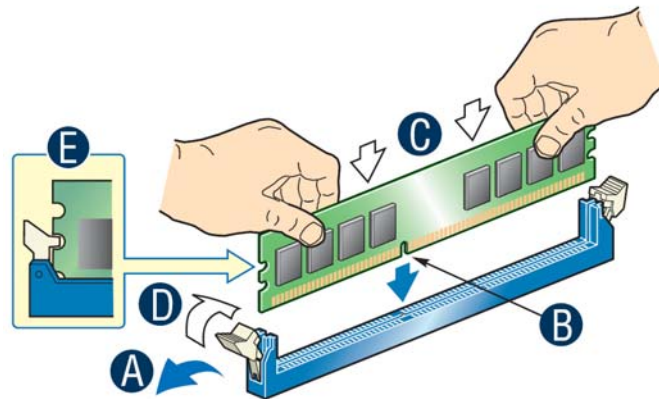

Figure 27 .Installing Memory
5. Make sure the clips at either end of the DIMM socket(s) are pushed outward to the open position (Step “A” in Figure 27).
7. Position the DIMM above the socket. Align the small notch in the bottom edge of the DIMM with the key in the socket (Step “B” in Figure 27).
8. Insert the bottom edge of the DIMM into the socket (Step “C” in Figure 27).
9. When the DIMM is inserted, push down on the top edge of the DIMM until the retaining clips snap into place (Step “D” in Figure 27).
10. Visually check that each latch is fully closed and correctly engaged with each DIMM edge slot (Step “E” in Figure 27).